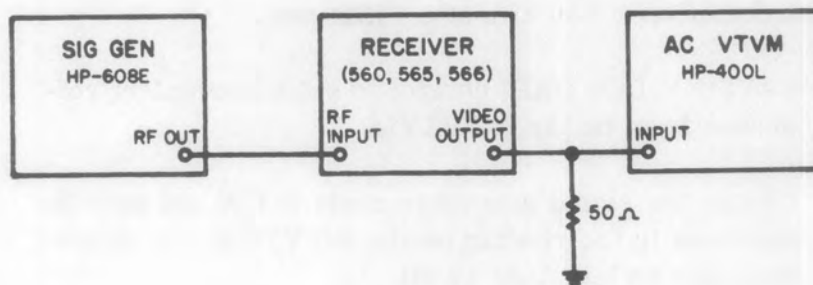

Figure 4-2. Equipment Setup; Performance Checks 4.6.1 through 4.6.5
- (1) Connect equipment as shown in Figure 4-2.
- (2) Place the receiver controls in the following positions:
- (1) Connect equipment as shown in Figure 4-2 except that the Boonton 202J FM signal generator should be substituted for the HP-608E.
- (2) Change the receiver mode switch to FM and the IF BANDWIDTH switch to 1 MHz.
- (3) Set the tuning assembly dial to 314 MHz.
- (4) Tune the signal generator to 157 MHz and adjust the controls for an output level of -86 dBm ($11.5 \mu\text{V}$) and a deviation of 150 kHz at a 1 kHz rate.
- (5) Use the VIDEO GAIN control to set a convenient reference level on the AC VTVM.
- (6) Change the signal generator mode to CW and note the decrease in the reading on the AC VTVM. It should decrease no less than 17 dB.
- (2) Tune the signal generator and tuning assembly to 314 MHz.
- (3) Adjust the signal generator controls for 50% modulation at 1 kHz rate and a level of -99 dBm ($2.51 \mu\text{V}$).
- (4) Set the receiver controls as described in 4.6.1 step (2) and rotate the VIDEO GAIN control fully clockwise.
- (5) Adjust the RF/IF GAIN control on the receiver for a convenient reference level on the AC VTVM.
- (6) Tune the signal generator to 60 MHz and increase the output level to again obtain the reading set in step (5). Note the signal generator output level. It should be at least 60 dBm (band 1), and 70 dBm (band 2), above the level set in step (3).
- (2) Repeat paragraph 4.6.3 steps (2) and (3).
- (3) Adjust the RF/IF GAIN control for a convenient reference level on the AC VTVM.
- (4) Tune the signal generator to 374 MHz and increase the output level to obtain the reading on the AC VTVM set in step (3). Note the signal generator output level. It should be 70 dB above the level set in step (3).